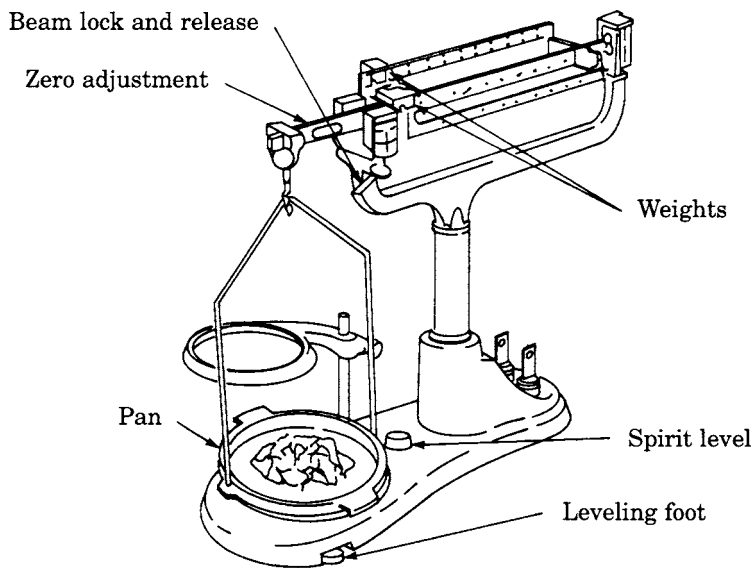

Figure 1.10
The single pan, triple beam balance is shown in Figure 1.10. This balance has a higher degree of accuracy because the divisions are marked in 0.01-g (estimates can be made to 0.001 g) increments.
3. The single pan, triple beam balance (Figure 1.10) is operated in the following way.